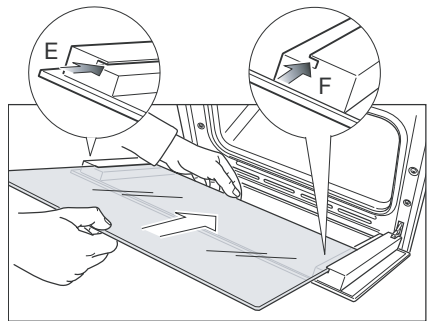
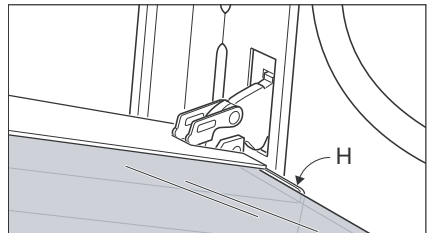

Fig. 49b
Fig. 49c
- Insert the pane in the left "E" and right "F" slide guides (Fig. 49b), and gently slide it to the retainers "H" (Fig. 49c).